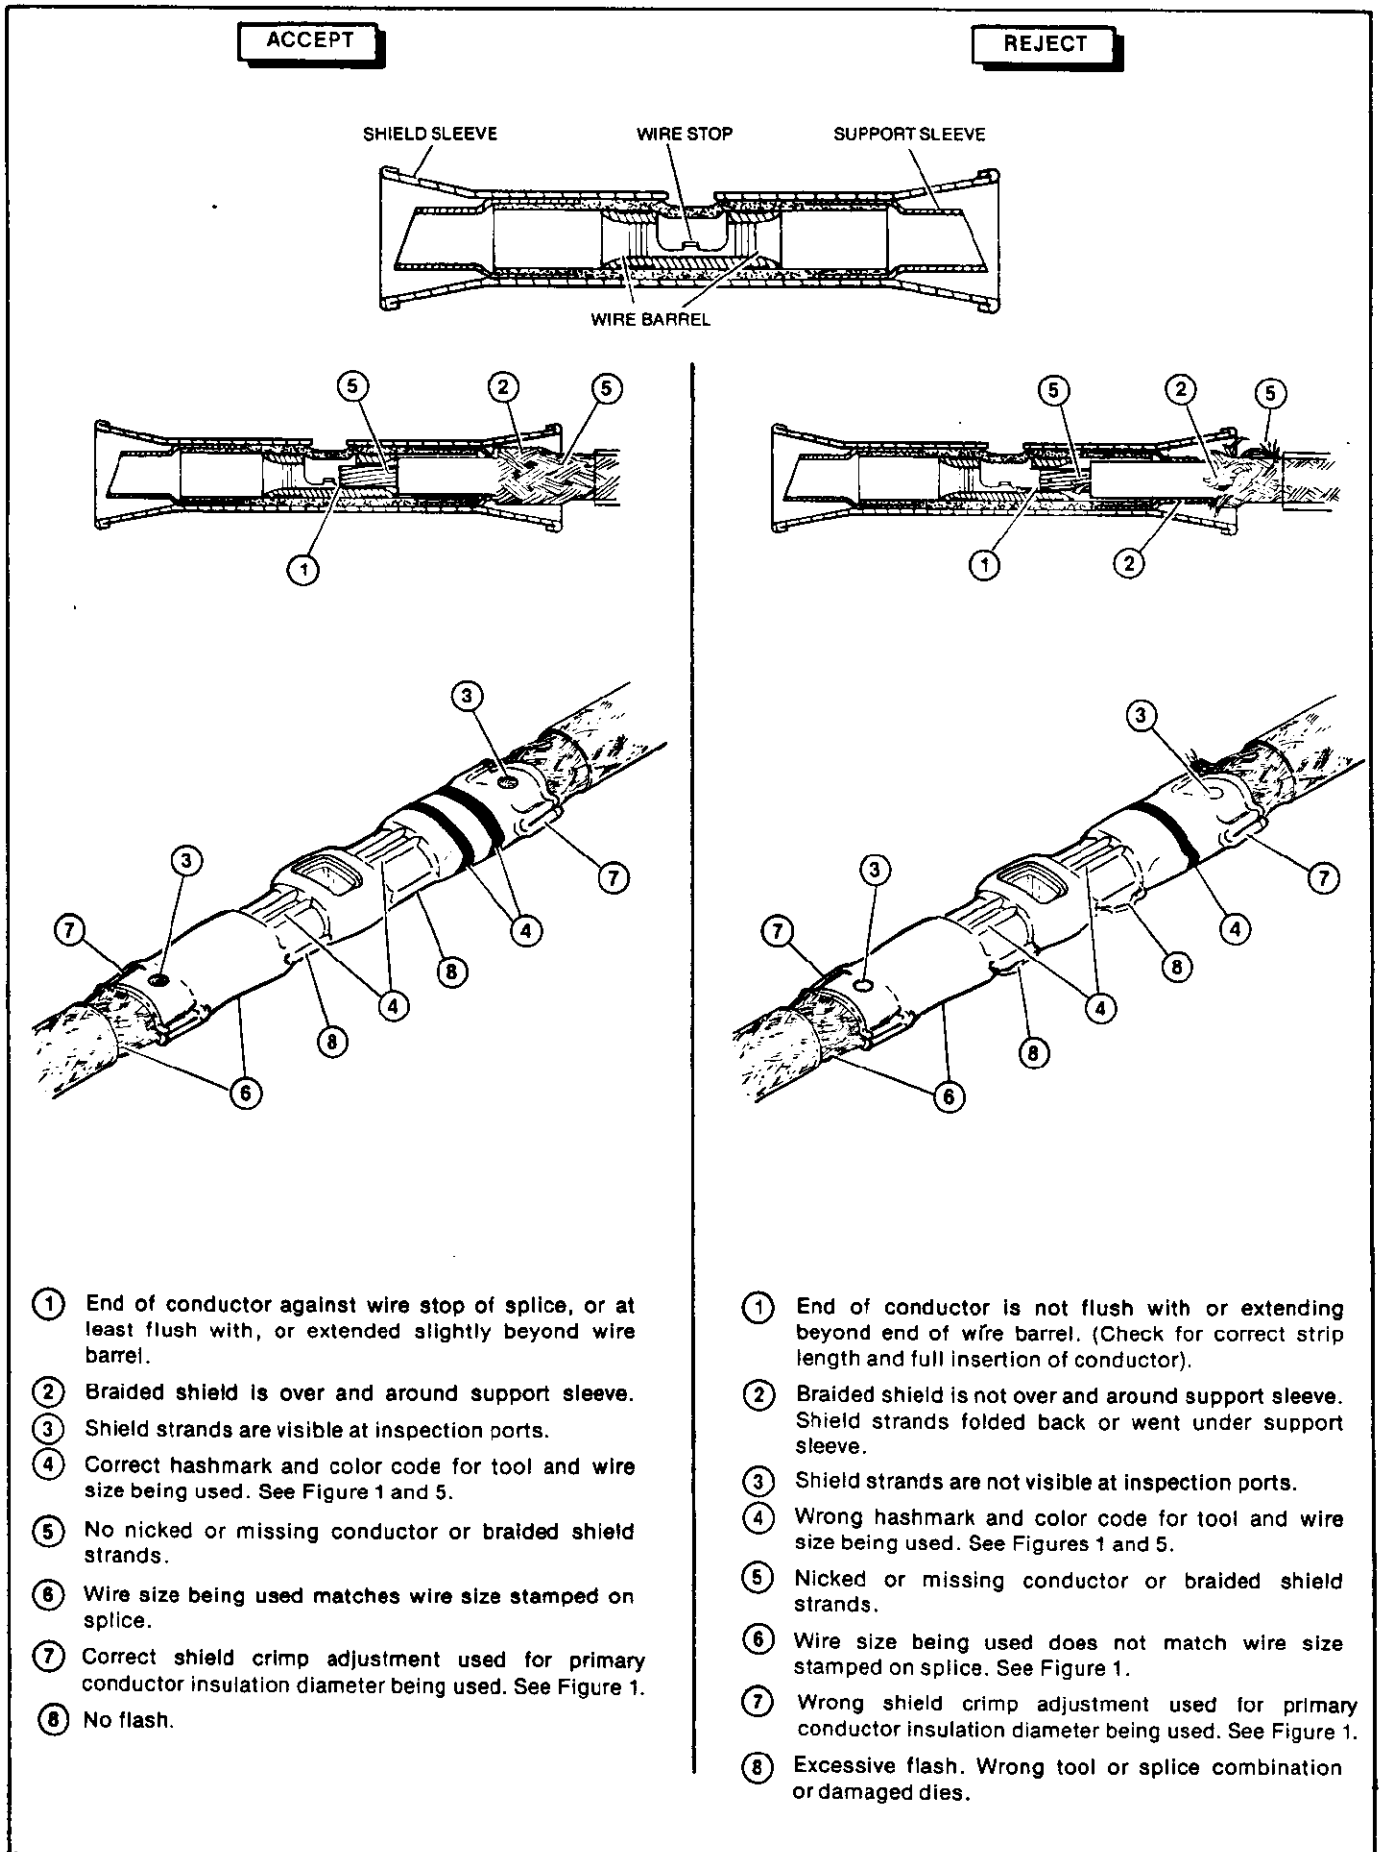

Figure 6
- Refer to Section 4 and Figure 6 for splice crimp inspection procedure.
Inspect crimped splices by checking the features described in Figure 6.